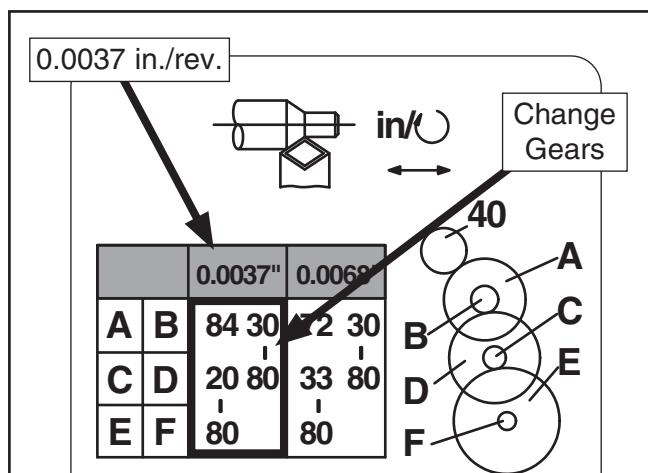

Figure 91. Change gears for 0.0037 in./rev. on feed chart.
2. Locate the 0.0037 in./rev. column heading on the feed rate chart, as shown in **Figure 91**.
3. Gather the required **A–F** change gears: 84T, 30T, 20T and two 80T gears, based upon the chart in **Figure 91**.